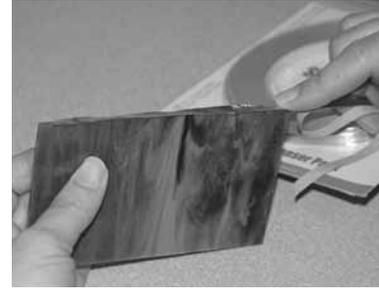

FIG. 4
- Peel back 2"-3" of backing from the foil, hold glass with the edge toward you, apply foil to glass so that it extends evenly over both sides of the glass. Crimp (fold) over edges making sure to fold corners neat and flat (FIG. 4).